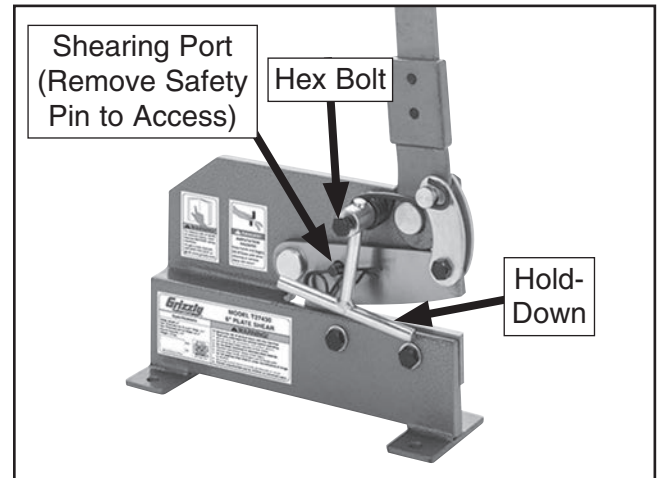

Figure 5. Plate shear hold-down.
1. Raise hold-down using hex bolt shown in **Figure 5** to allow room for workpiece.